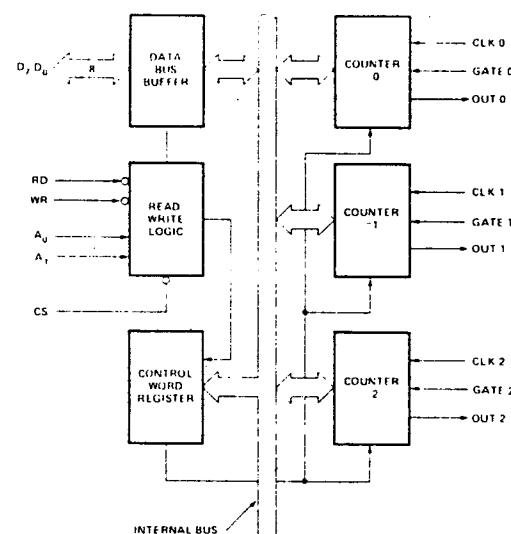

Figure 1. Block Diagram
- AC timings measured $V_{OH} = 2.0$, $V_{OL} = 2.0$, $V_{OL} = 0.8$, and with load circuit of Figure 1.
- Chip Select (CS) and Command/Data (C/D) are considered as Addresses.